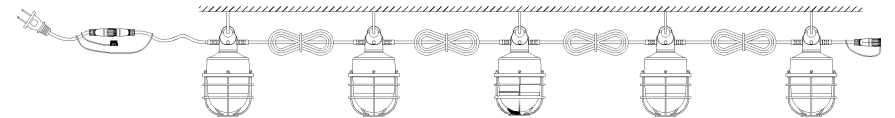

Figure 2
2. Hook the ring and fix the hook to the wall or object (Note: make sure the wall or object is strong enough) (Figure 2);